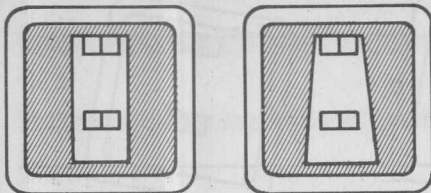

Fig. 2. A tilt error produces a trapezoidal wear pattern on the head. Correct pattern is at left.
**The Magic Marker Test.** To get an idea of the tilt situation, as well as a general picture of tape-to-head contact, try gently painting the head faces with dark-color ink from a felt-tip pen and running a few seconds worth of tape over them. Once the tape has worn away some of the ink, you'll be able to see a contact patch, which should be perfectly rectangular in shape and well centered on the head face (Fig. 2). If the patch is trapezoidal (i.e., wider at the top or bottom of the head), there is a tilt misalignment, although it may not be obvious which head is misaligned. Any head of the three can give the tape a little skew that will show up in the contact patterns of the other two. But probably